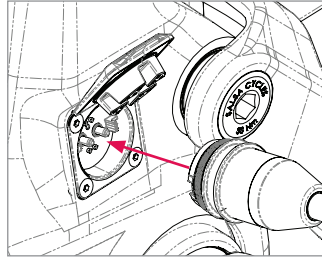

Figure 7
3. Insert the charging plug into the charge socket (Fig. 7). Note that the connection is magnetic and will only attach in one orientation, this guarantees proper alignment.